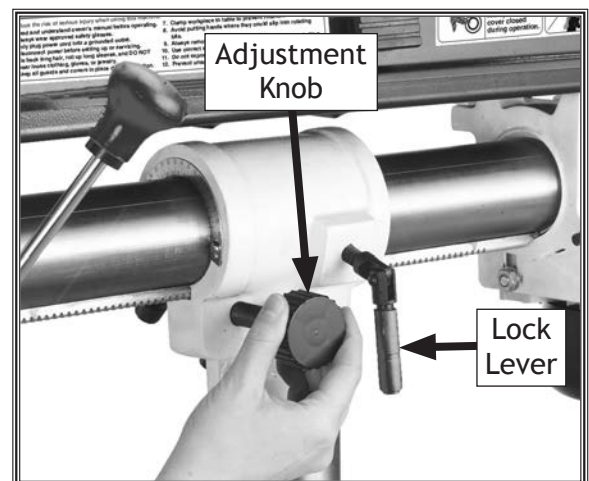

Figure 36. Headstock slide controls.
1. Loosen the lock lever located on the left side of the headstock (see **Figure 36**).
2. Turn the adjustment knob, as shown in **Figure 36**, to move the headstock back and forth to the desired position. Tighten the lock lever before operating the machine.